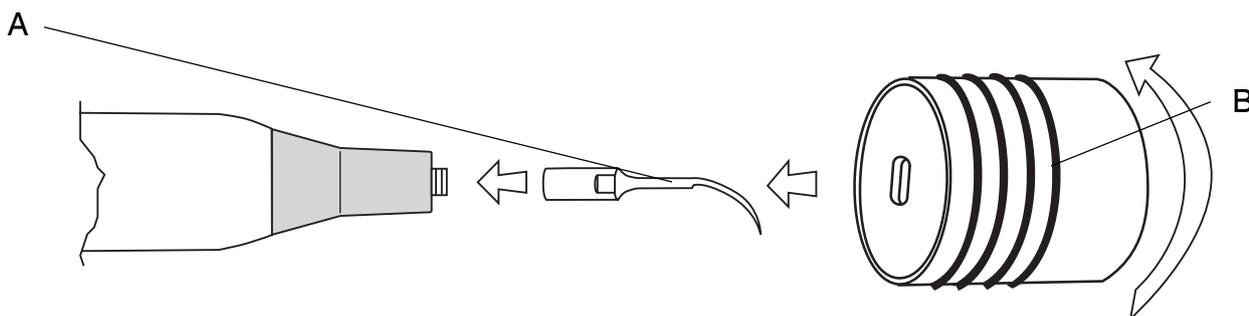

Fig. 10
- 2 Fit the required insert (Fig.10 - Ref.A) onto the Piezosurgery handpiece and lock it into place using one of the wrenches included in the supply.
- 3 To use the torque wrench correctly (Fig.10 - Ref.B), proceed as follows: